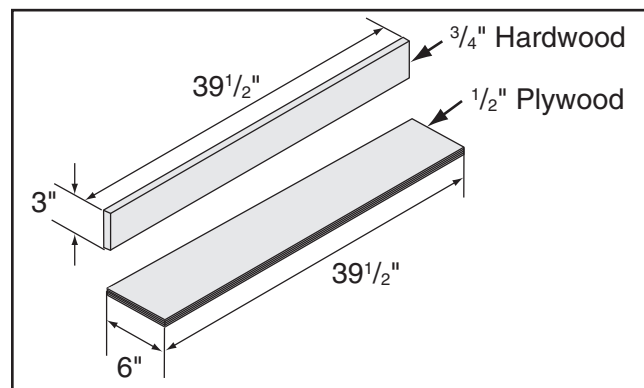

Figure 104. Auxiliary fence dimensions.
1. Cut a piece of $\frac{1}{2}$ " thick plywood 6" by $39\frac{1}{2}$ ", and cut a piece of $\frac{3}{4}$ " thick hardwood 3" by $39\frac{1}{2}$ ", as shown in **Figure 104**.